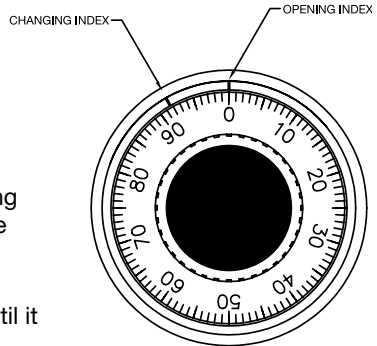

Figure 1
1. Dial the existing combination using the CHANGING Index. (Figure 1.)